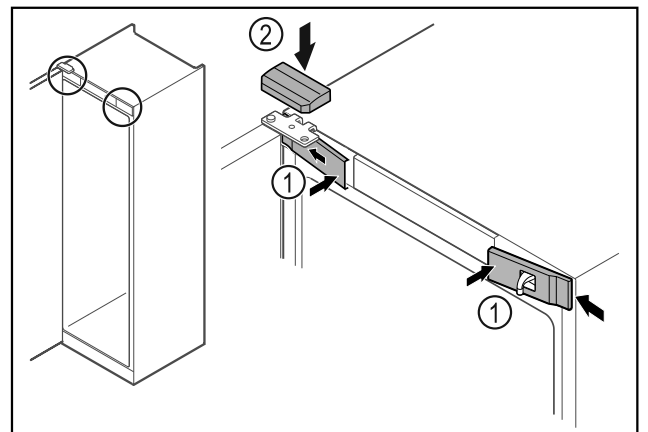

Fig. 46
- ▶ Hook in the front covers Fig. 46 (1) on the side and snap them into place.
- ▶ Snap on the top cover Fig. 46 (2) from above.